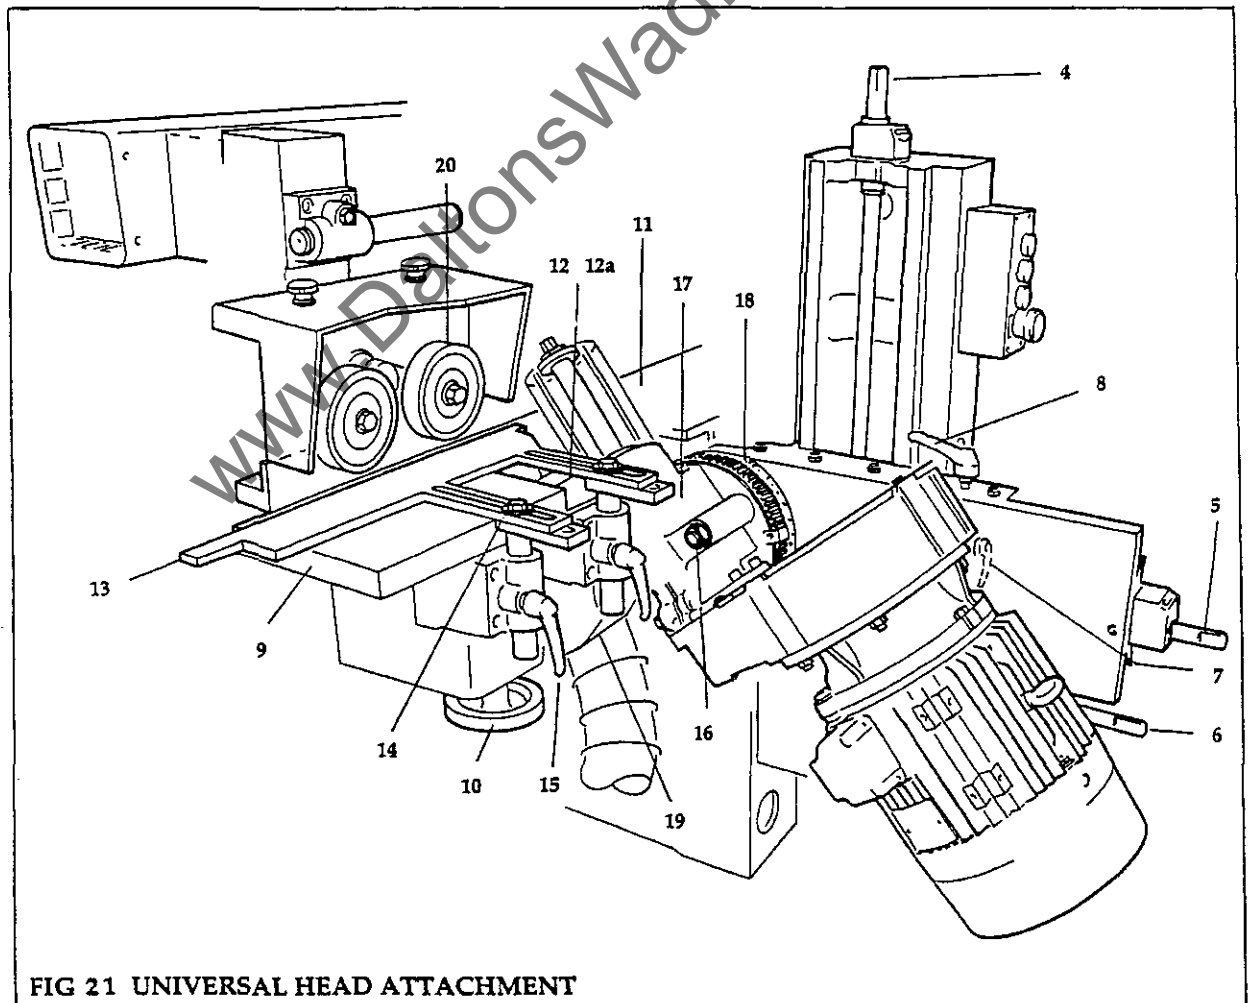

FIG 21 UNIVERSAL HEAD ATTACHMENT
Universal Head Modes (fig 21, 22, 23)
- (5) Set guide (13) for width and height using setscrews (14) and locking handles (15) (see fig 21)